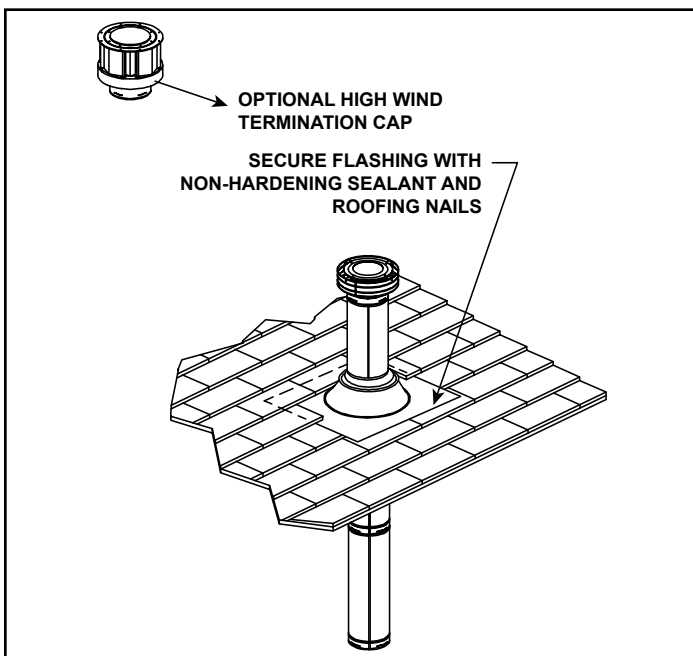

Figure 5.14
8. Slip the storm collar over the pipe, and push it down to the top of the flashing (Figure 5.14). Use non-hardening sealant above and below the joint between the storm collar and the pipe.